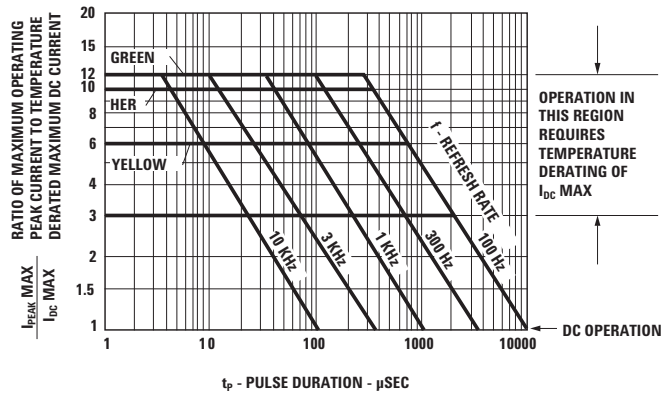

Figure 8. Maximum Tolerable Peak Current vs. Pulse Duration –
4. See Figure 8 to establish pulsed operating conditions. Maximum pulse width is 2 ms.